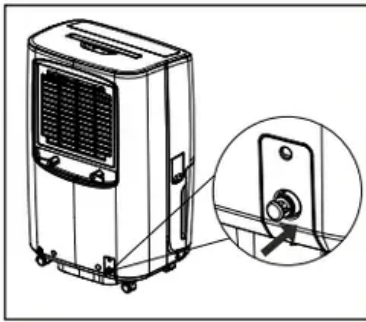

fig. 11
a. Press the tightening ring of drainage joint, and then pull out the plug in the joint. (fig.11)